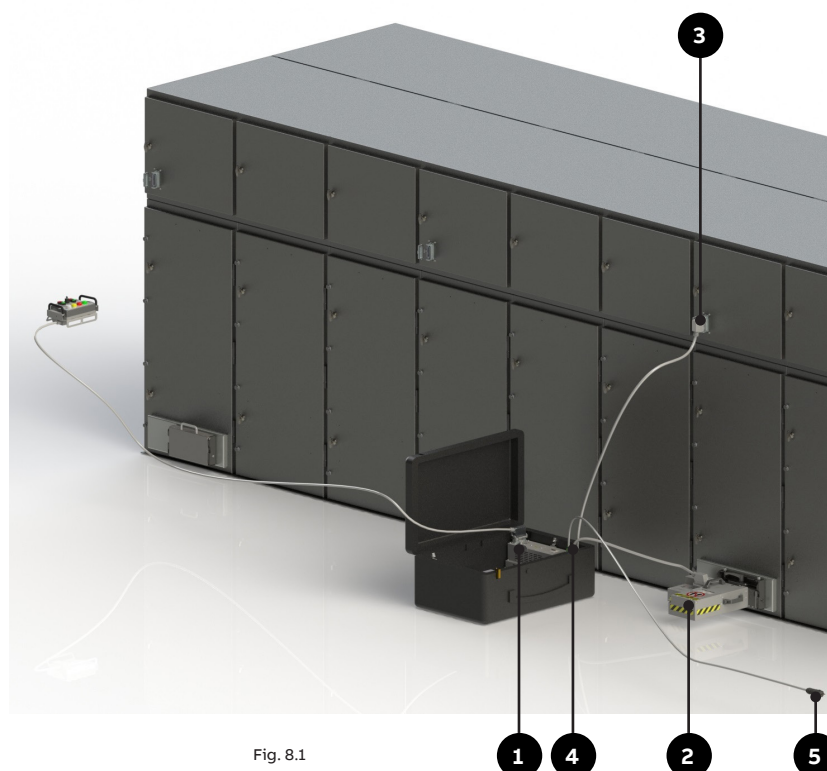
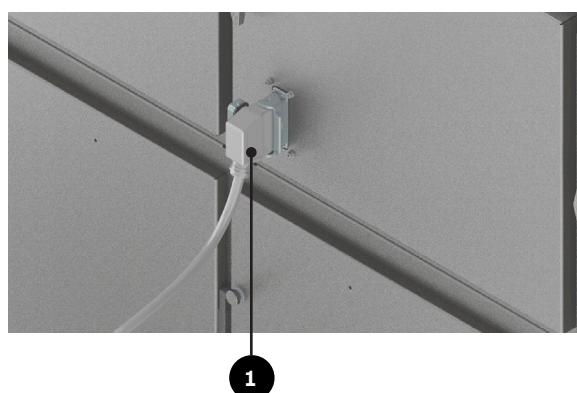
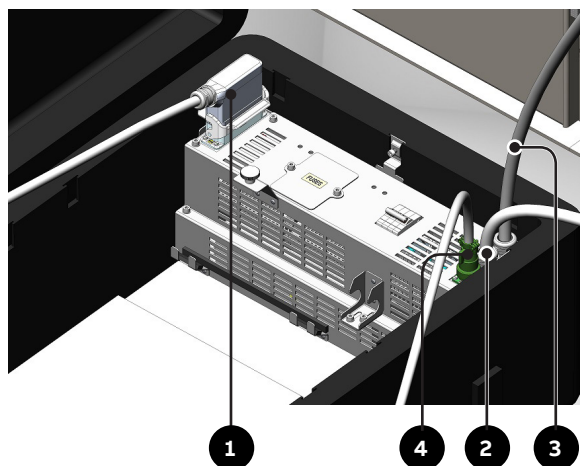

Fig. 8.1
Fig. 8.2
Fig. 9
- Connect the mobile socket (-XDB11 – 25 poles) out coming from logical box to the correspondent fixed plug placed on the Truckmaster Portable driver (see fig. 9 item 2) and fix it by locking element (see fig. 8.1 item 2).
- Connect the mobile socket (-XDB15 – 16 poles) out coming from logical box to the correspondent fixed plug placed on the panel (see fig. 9 item 3) and fix it by locking element (see fig. 8.1 item 3 and fig. 8.2 item 1).
- Connect the supply cable connector (-XDB9) to the correspondent plug placed on the logical box (see fig. 9 item 4) and connect the other side to the supply source (see fig. 8.1 item 5)